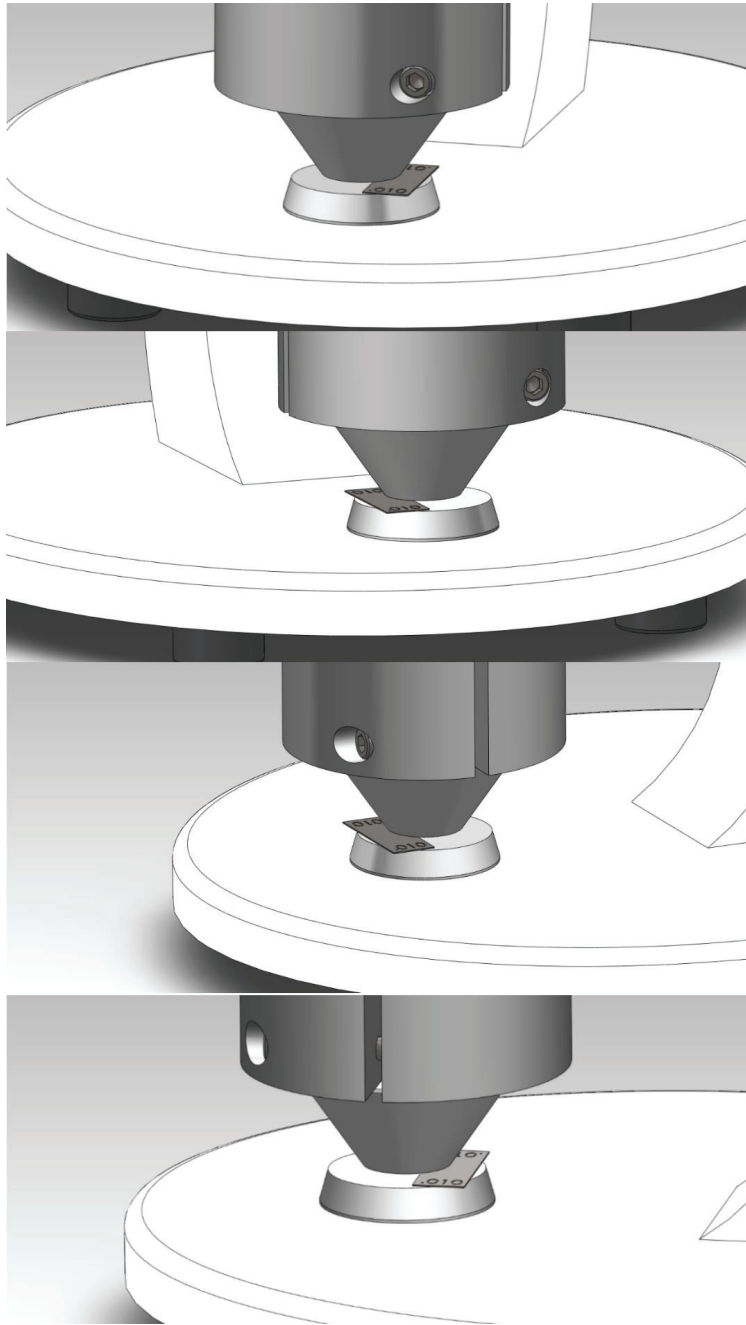

Figure 1
2. Insert the same one half of the width of the gauge block between the anvils on the left side of the unit. See Figure 1.